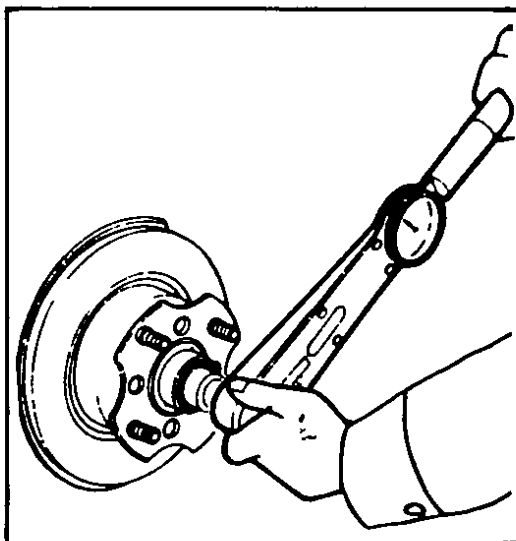

Fig. 115 Tightening spindle
2. Tighten the spindle nut to specification, using a suitable torque wrench, Fig. 115.